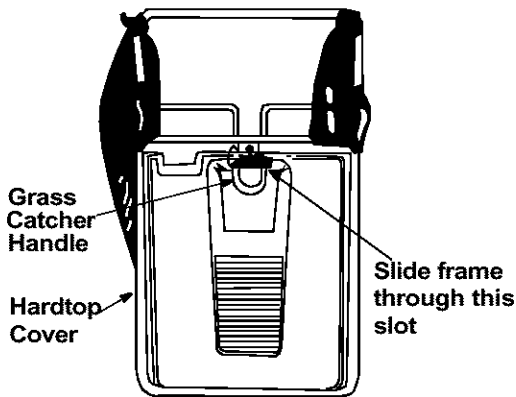

Figure 9
- Hold the bag and frame so the bag hangs from the frame (is not bunched around the frame). Slide the handle of the grass catcher frame through the slot in the hardtop cover as shown in Figure 9.